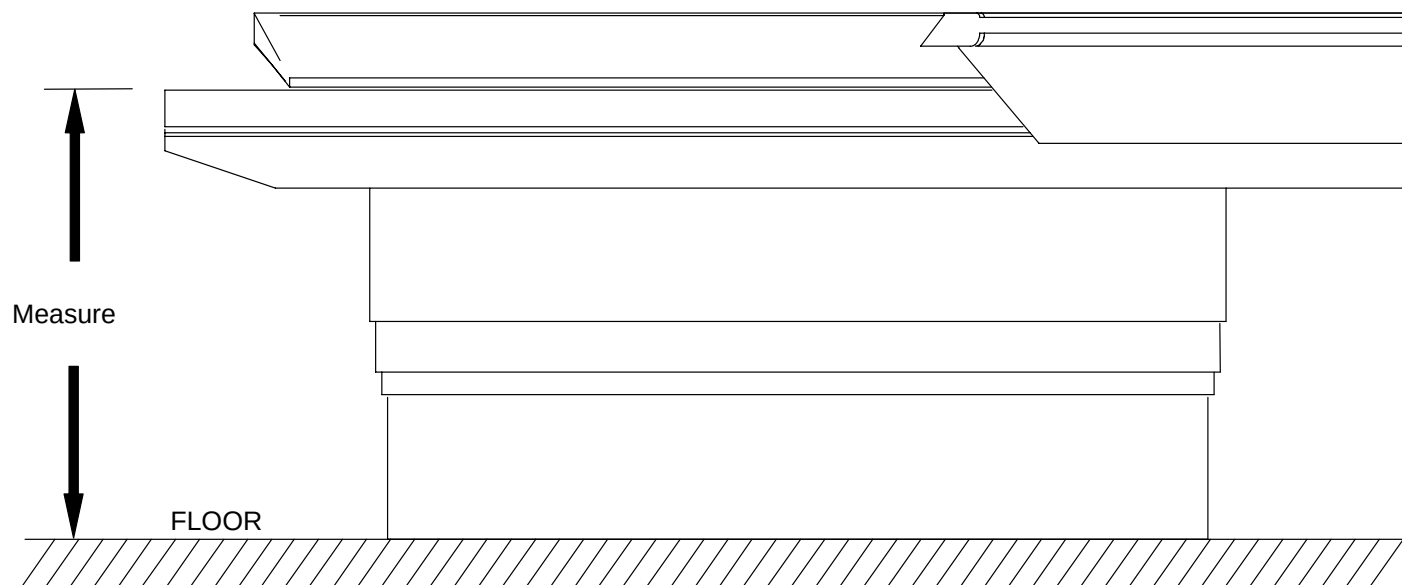

FIGURE 73 PATIENT SUPPORT WITH GANTRY DISPLAY AT 10.0 MM
4. Position the Patient Support at a vertical elevation of **10.0 mm as displayed on the Gantry**. Measure this distance with a metric tape measure. See Figure 73. ***Record the value.***